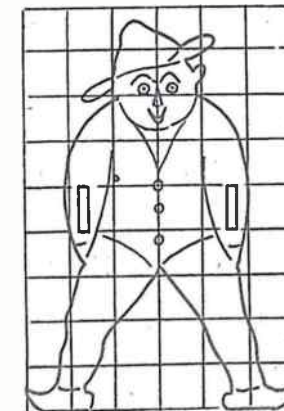
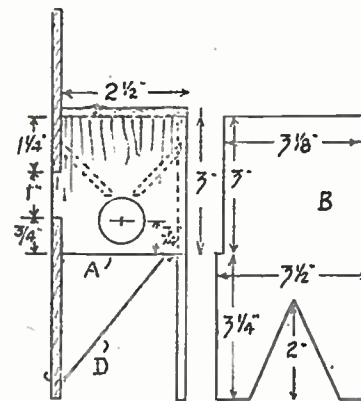
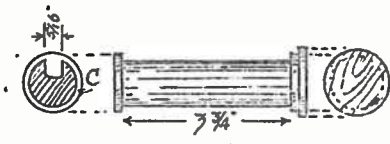

Fig. 1
Fig. 2
Fig. 3
A pattern for the figure is given in Fig. 1, drawn over 1in. squares. Copy these full size on to thin white paper, and trace through on carbon paper to the plywood. An important point to notice is the width between the mortise slots must be 3/4 ins. to correspond with the width of the back of the case. At Fig. 2 a side view of the box is given, from
above the roller, as shown by dotted lines in Fig. 2. Drop a few cigarettes in, and turn the roller, when the cigarettes should drop out one at a time. If any catch, a little further widening of the groove in the roller should make all right. Everything being O.K., re-nail the disc on the roller. Now cut another and third disc of wood, this time, 1 1/2 ins. diameter and nail this over the smaller disc, as shown on the right in Fig. 3, to act as a knob for twisting the roller.
To the top of the case fit a top cover of wood. A portion of this (just over half in fact), cut off from the cover, and hinge it to the remainder, to act as a lid, allowing the case to be restocked with cigarettes. Fit a hook and eye fastener to this to keep it down. A slide is now to be constructed, to guide the cigarettes to between the feet of the figure. This is shown at (D) in Fig. 2 and can be made up from tinplate taken from an empty food can.
shape is quite straightforward and can be pencilled direct to the wood. Now glue the sides to the figure front and give the back between. A few fine fretwork nails can be added to strengthen the whole. For the roller, Fig. 3, a length of 1in. round wooden rod will be required. This can be cut from a broomstick, if nothing better is available. Lengthwise down this a channel, 1/2 in. wide and deep, is sawn and chiselled carefully out. It should be tested for size, and should hold a cigarette easily. Try it out, and enlarge it, if necessary, until a cigarette drops easily in, and out. To both ends nail a 1 1/2 in. disc of thin fretwood, as at (C), nail one, temporarily, to allow it to be removed for inserting the roller in its case.